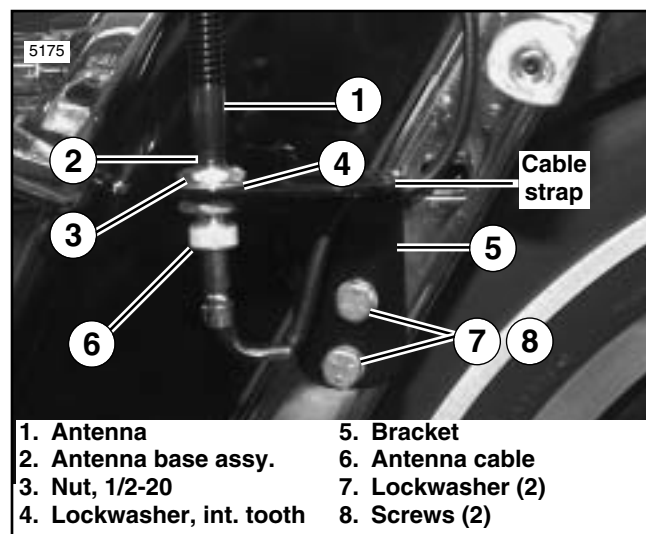

Figure 4. Antenna Mounting
1. See Figure 4. Remove the right-side saddlebag.
2. Fasten the antenna bracket (5) to the right fender-support bracket using two 5/16-18 X 5/8-inch screws (9) and lockwashers (8) from the kit.
1. See Figure 4. Screw the antenna (sold separately) onto the antenna base assembly (2) and tighten the set screw in the antenna to secure it to the base.
4. See Figure 4. Plug the antenna-cable connector into the antenna base.
6. See Figures 4 and 5. Secure the antenna cable to the vehicle using cable straps at the locations shown.